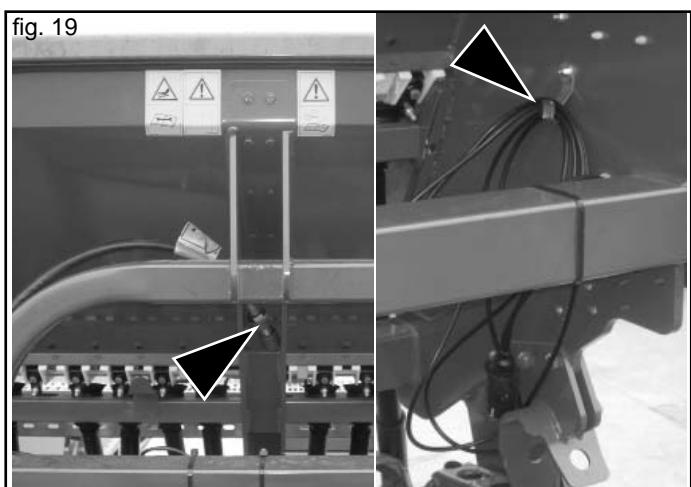

fig. 19
- 1) Disconnect all the hydraulic and electric connections involved (Fig. 19).